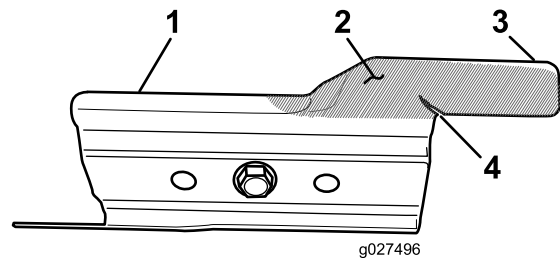

Figure 28
Carefully examine the accelerator for excessive wear (Figure 28). Because sand and abrasive material can wear away the metal (especially in the area shown as item 2 in Figure 28), check the accelerator before using the machine. If you notice that a tab on the accelerator has been worn down to a sharp edge or there is a crack, replace the accelerator.